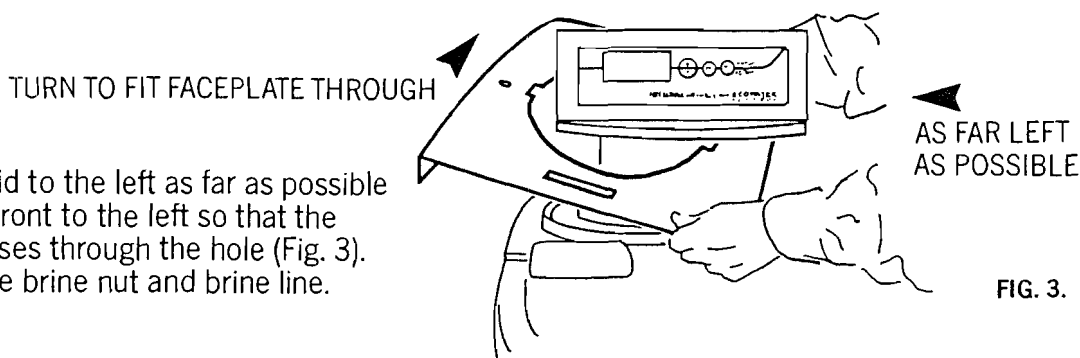

FIG. 3.
4. Slide the lid to the left as far as possible and turn the front to the left so that the faceplate passes through the hole (Fig. 3). Reconnect the brine nut and brine line.